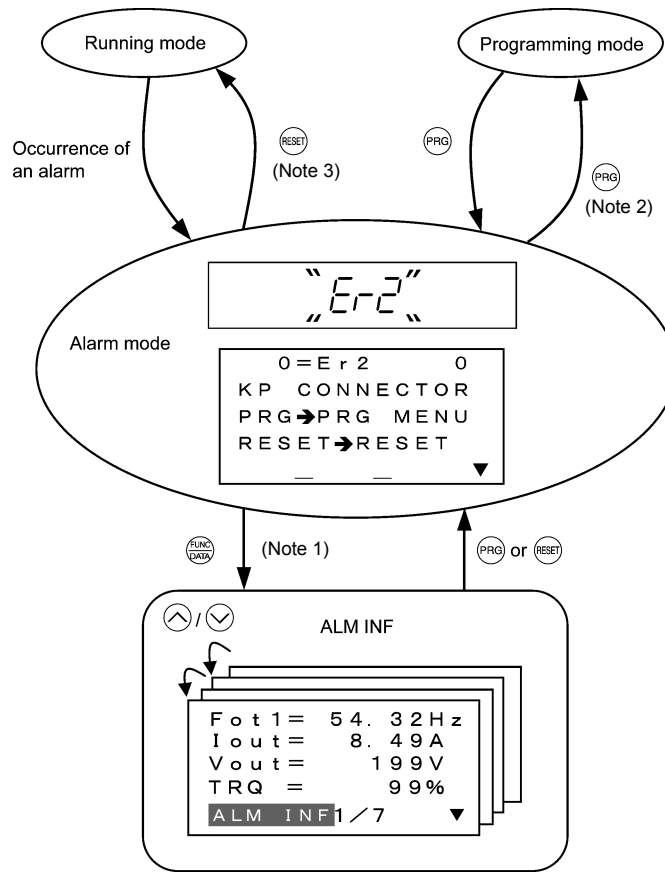

Figure 3.37 Screen Transition in/from Alarm Mode
■ Display of running status information at the time of alarm (Note 1 in Figure 3.37)
■ Transition to Programming mode (Note 2 in Figure 3.37)
■ Resetting alarm (Note 3 in Figure 3.37)